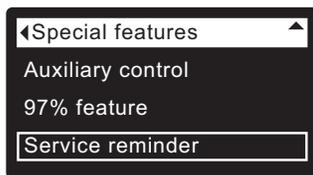

FIG. 97
1. From any of the rolling status screens, press the SELECT (O) button to display the **Main menu**.
3. Press the SELECT (O) button to display the Advanced settings menu.
5. Press the SELECT (O) button to display the Special features menu (See Figure 97).
9. Press the SELECT (O) button. The display will go back to the Special features menu (Figure 97).